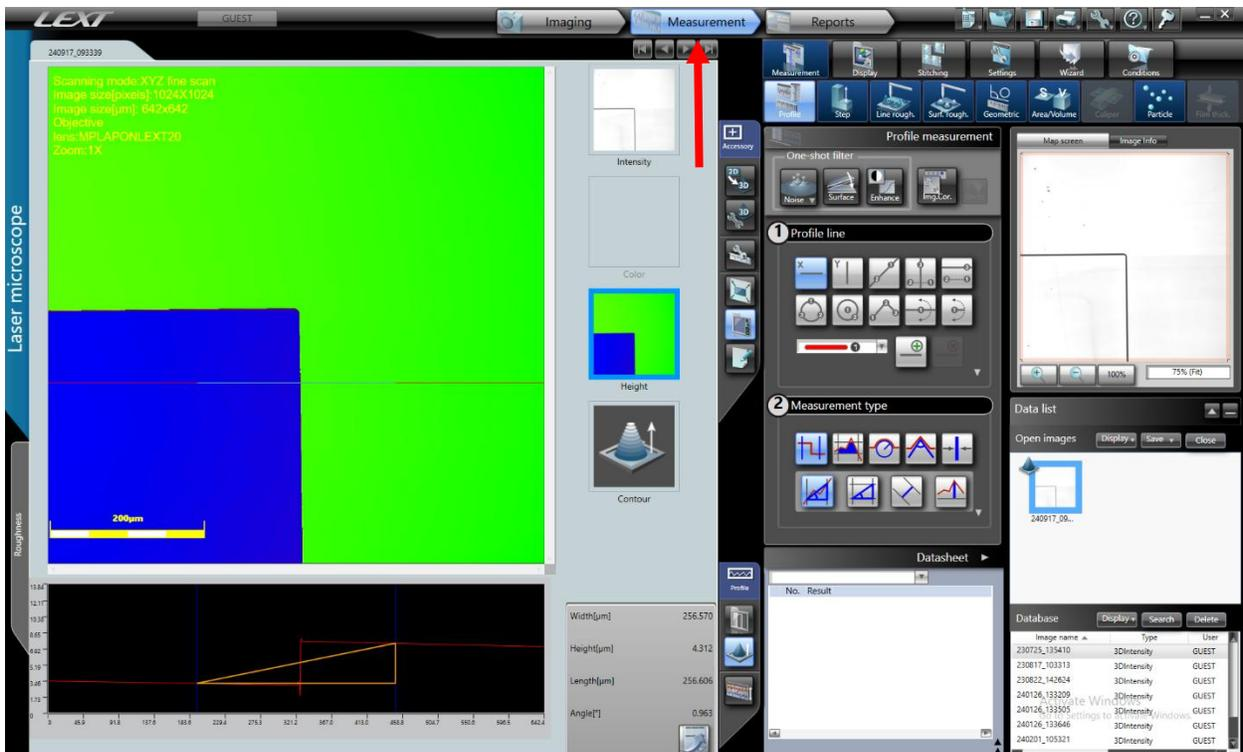

Figure 21. Measurements
19. Measurements on the Intensity and Height graphs can be performed in the measurements tab, as shown in Figure 21.